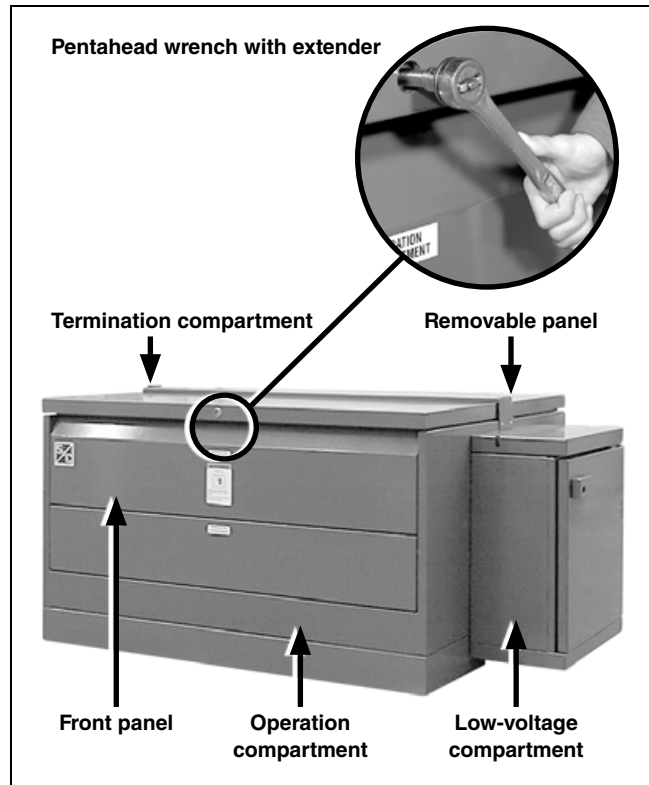

Figure 7. A pad-mounted Vista enclosure with the roofs closed.
- STEP 1.** Loosen the pentahead bolts securing the hinged roofs to the enclosure using a pentahead socket wrench with extender or a pentahead tool. See Figure 7.